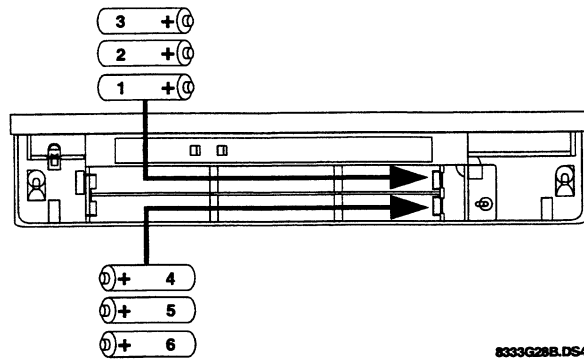

Figure 7. Battery Polarity and Order of Installation
5. Insert appropriate new batteries in the order and direction shown in Figure 7.